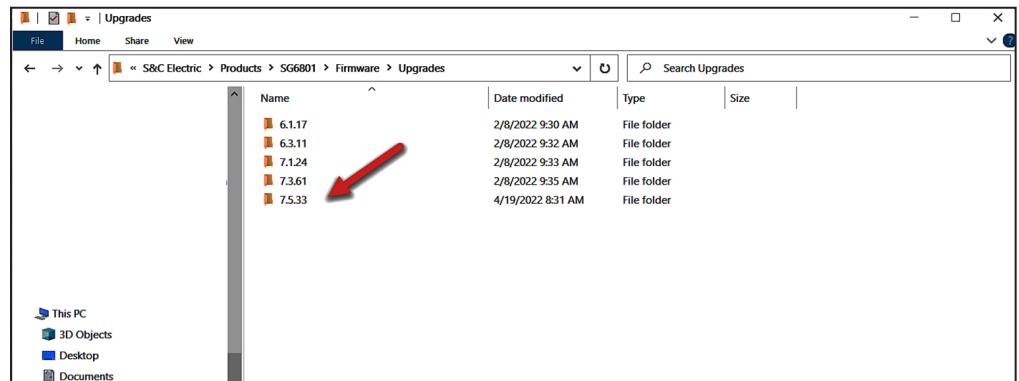

Figure 29. The C:\Program Files (x86)\S&C Electric\Products\SG6801\Firmware\Upgrades dialog box.
STEP 6. Open the Windows *File Explorer* screen and navigate to the program folder C:\Program Files (x86)\S&C Electric\Products\SG6801\Firmware\Upgrades. See Figure 29. Delete any folders that have a version number later than the target downgrade version.